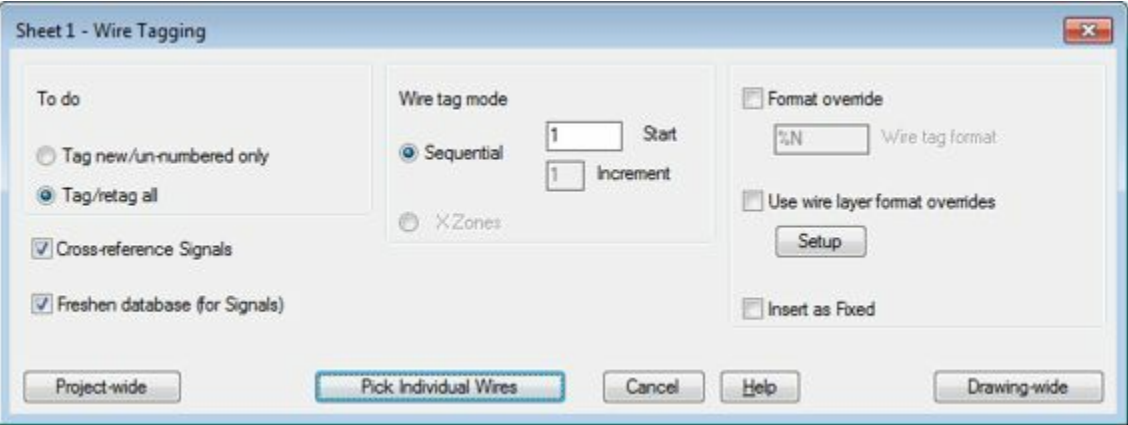

Figure-61. Sheet1 Wire Tagging dialog box
- Click on the **Wire Numbers** tool from the **Wire Numbers** drop-down. The **Sheet1 - Wire Tagging** dialog box will be displayed as shown in Figure-61.